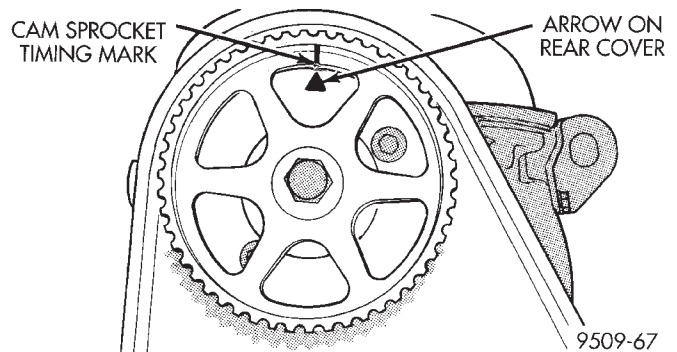

Fig. 29 Camshaft Timing Marks
- Check the timing mark on the camshaft sprocket, it should align with the arrow on the rear belt cover (Fig. 29).